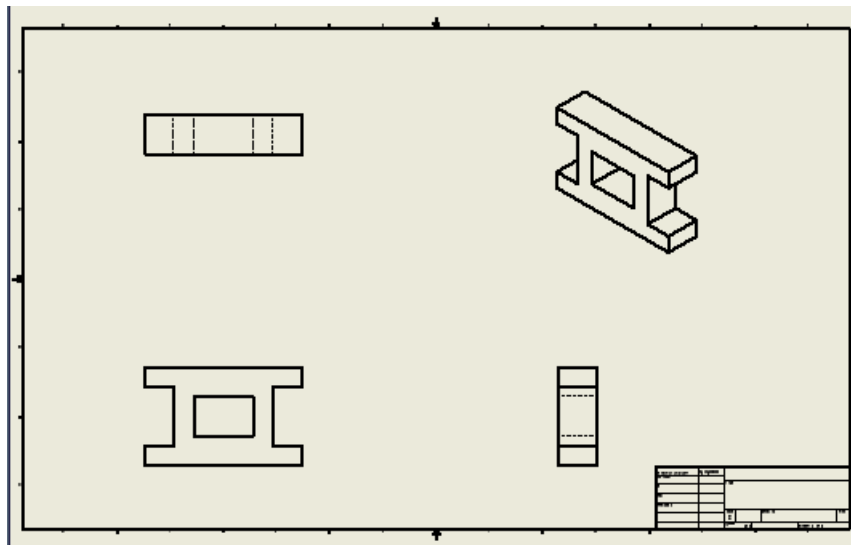

Figure 2-101 Drawing sheet after generating the drawing views
5. Similarly, taking the front view as the parent view, generate the drawing of right-side view and the isometric view, as shown in Figure 2-101.